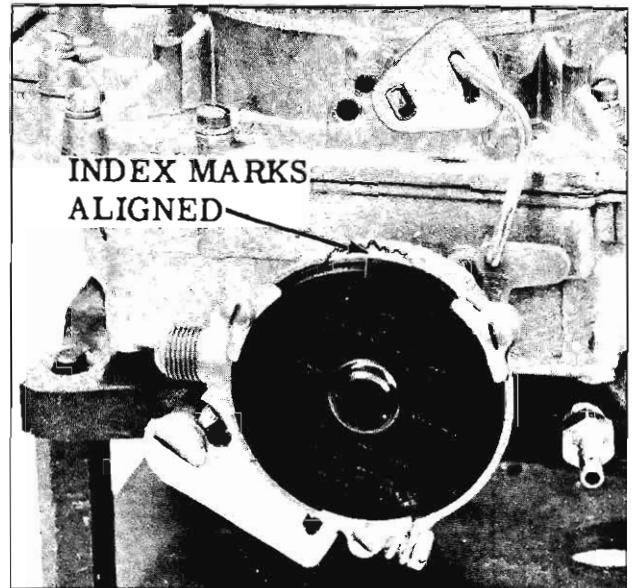

Fig. 4-24 Choke Coil Setting
4. Rotate cover counterclockwise until coil picks up tang on piston linkage. Continue rotating cover until scribe line on cover is on index. (Fig. 4-24)